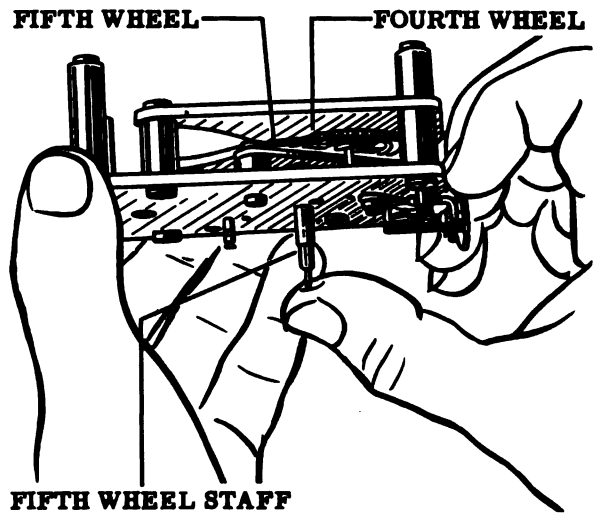

Figure 91
- 7. Check the endshake and sideshake of each of the train wheels against the standards listed in "Clock Movement Assembly Adjustment Standards" as indexed in the Control Manual. For corrective measures see "Special Timepiece Repair and Adjustment Operations." See the Control Manual index. Fig. 91 shows testing the endshake of the fifth wheel.